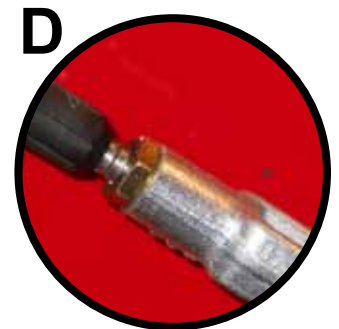

Fig. 013
4. Adjust jam nut all the way to the end so no threads are showing. Adjust the yoke as far onto the rod as possible and re-tighten the jam against the yoke (D - Fig. 013).